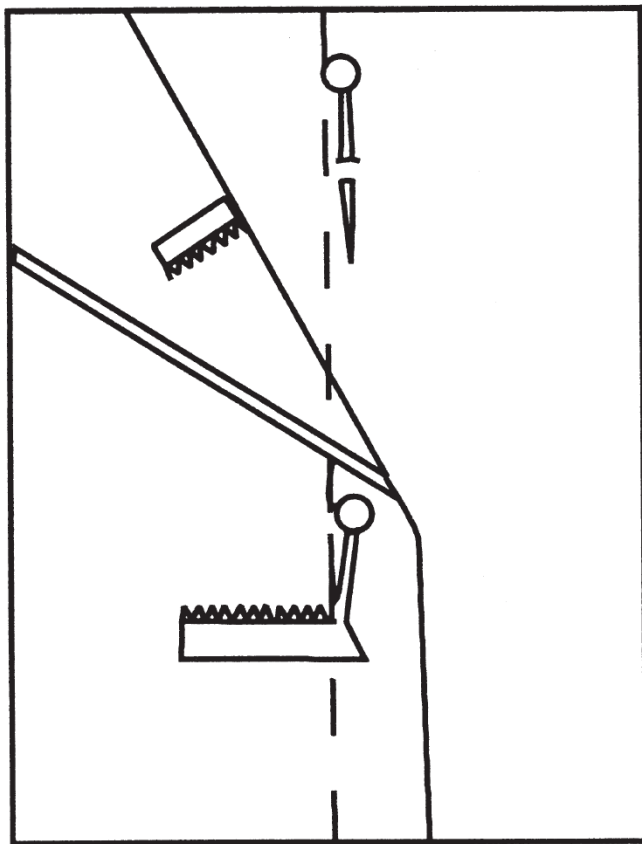

Figure 11. For a horizontal buttonhole, stick a pin through the center front or back marking.
- For a horizontal buttonhole, stick a pin through at the center front or back marking, 1/8 inch in from the end of the buttonhole (Figure 11).